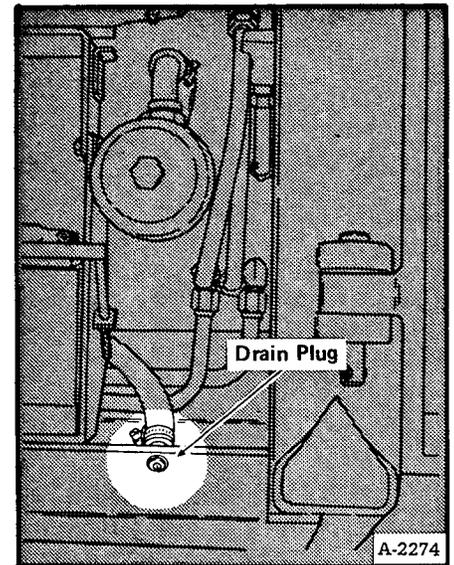

Fig. 1-15 Engine Oil Drain
- (1) Remove crankcase drain plug (located at the end of crankcase drain hose)(Fig. 1-15).
- (2) Remove engine oil filter cartridge.
- (3) Clean filter sealing surface.
- (4) Apply small amount of new oil to sealing surface of filter and install on engine.
- (5) Allow oil to flow from crankcase for about five minutes, then replace drain plug.